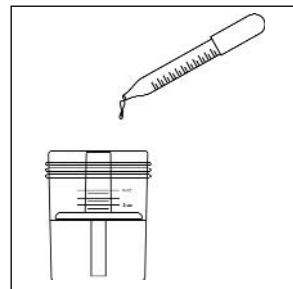
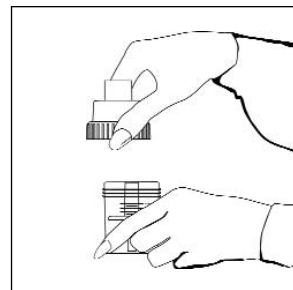

Figure 3
Figure 4
7. Assemble clean nebulizer parts by placing baffle down in medication cup. Add prescribed medication into the medication cup (**Fig. 3**). Holding cup stationary, screw on nebulizer cap (**Fig 4**).